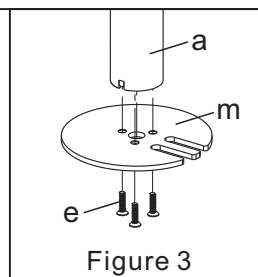

Figure 3
1. Install the Grommet Base Plate(m) to the Pole(a) using 3pcs M5x14 Bolts(e), and tighten using the Allen Key(o), see Figure 3.